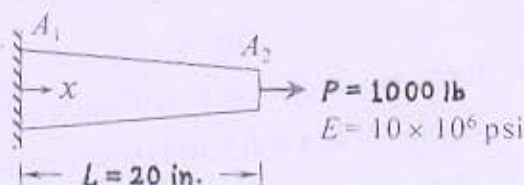

Figure 2
- Q - 2 For the tapered bar shown in Figure 2, the cross-sectional areas are $A_1 = 1 \text{ in.}^2$ and $A_2 = 0.5 \text{ in.}^2$ at each end. Using higher order isoparametric formulation, obtain the displacements in the bar at 5 in. interval along the length of the bar. Here, lb, in., and psi respectively denote pounds, inch, and pounds per square inch. [14]
- Q - 3 For the tapered bar shown in Figure 2, obtain the strains and stresses in the bar at 5 in. [14]